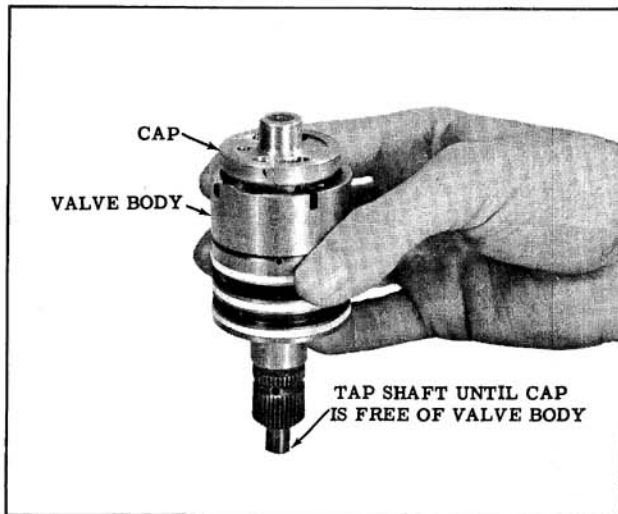

Fig. 8-54 Freeing Shaft Cap
- a. While holding the assembly (lower shaft down), lightly tap the lower shaft against the bench until the shaft cap is free from the valve body. (Fig. 8-54) The spool valve should be held in the valve body while tapping the shaft.